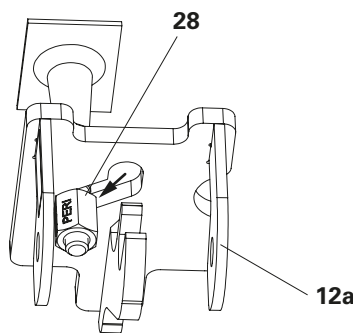

Fig. A5.12b
1. Insert Anchor VGK B15 (**28**) through Suspension Head VGK Flex on the slot side (**12a**), screw on but do not tighten. (Fig. A5.12b)